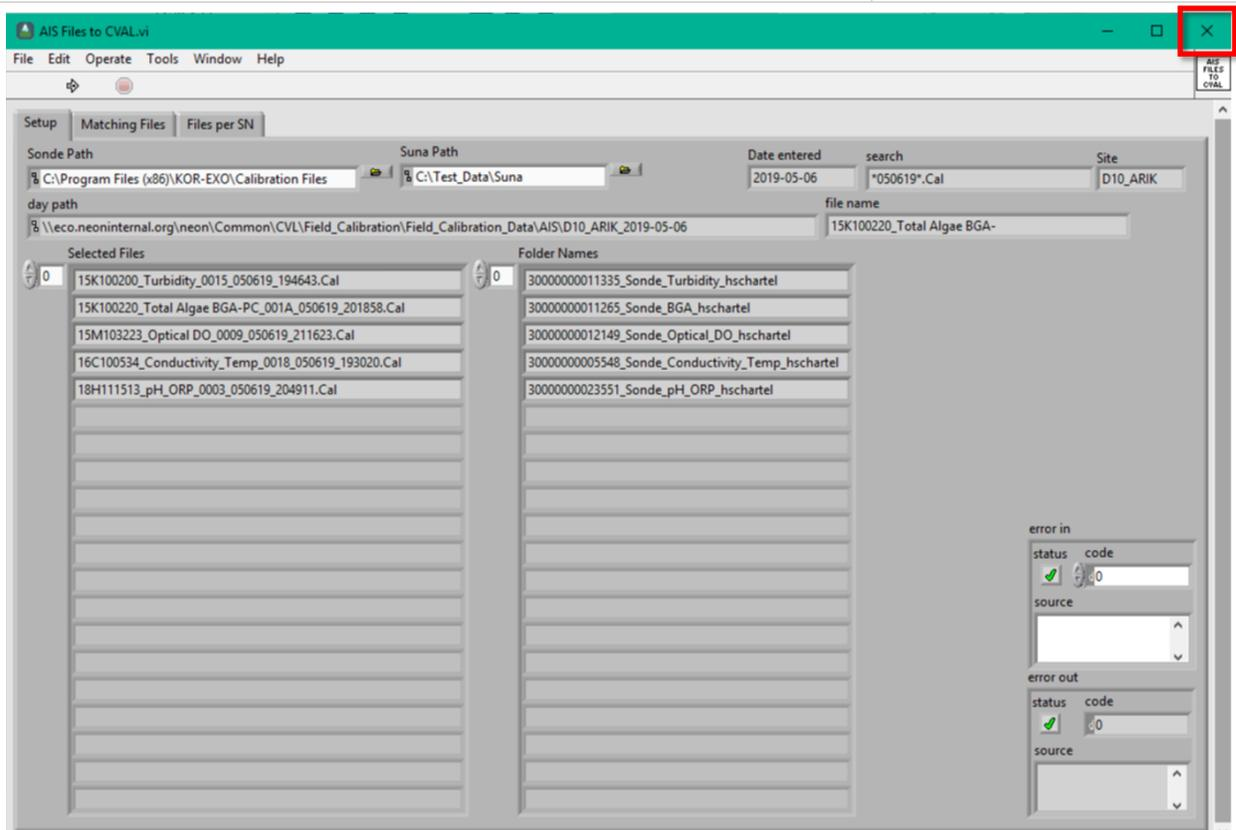

Figure 173. Click the "X" to Exit the Application
**STEP 8** | Click on the **“X”** to exit the application (Figure 173).